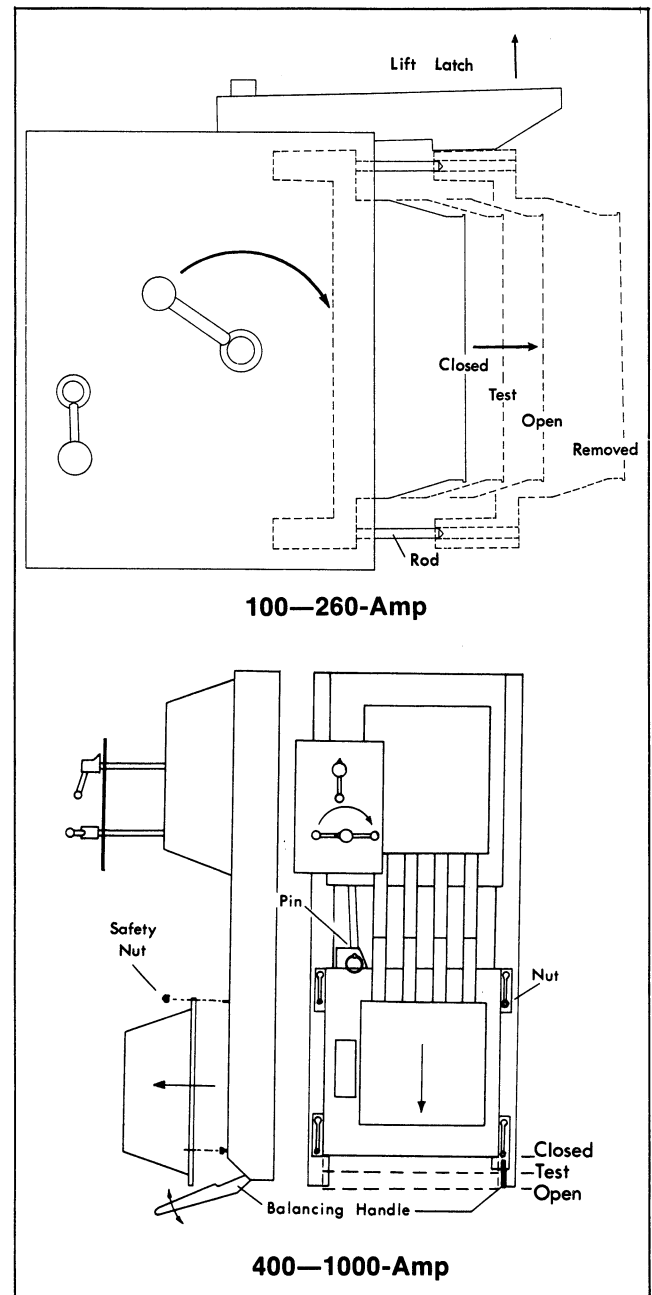

Figure 19. Transfer Switch Removal
4. Remove Transfer Switch as follows (Figure 19).